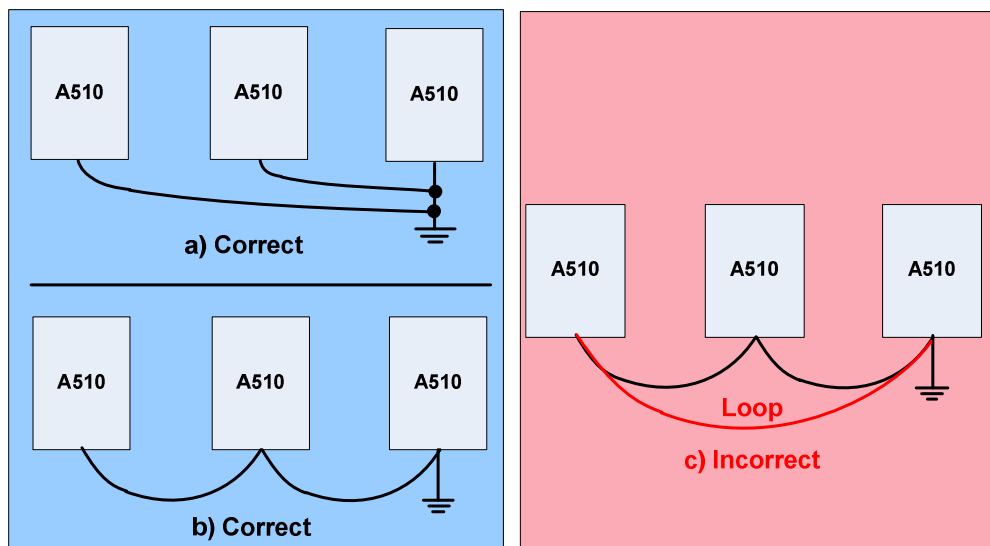

Fig. 3.12.1 Inverter Grounding
1. Connect the ground terminal (E) to ground having a resistance of less than 100Ω.
4. When using more than one inverter, be careful not to loop the ground wire, as shown below in Fig. 3.12.1.